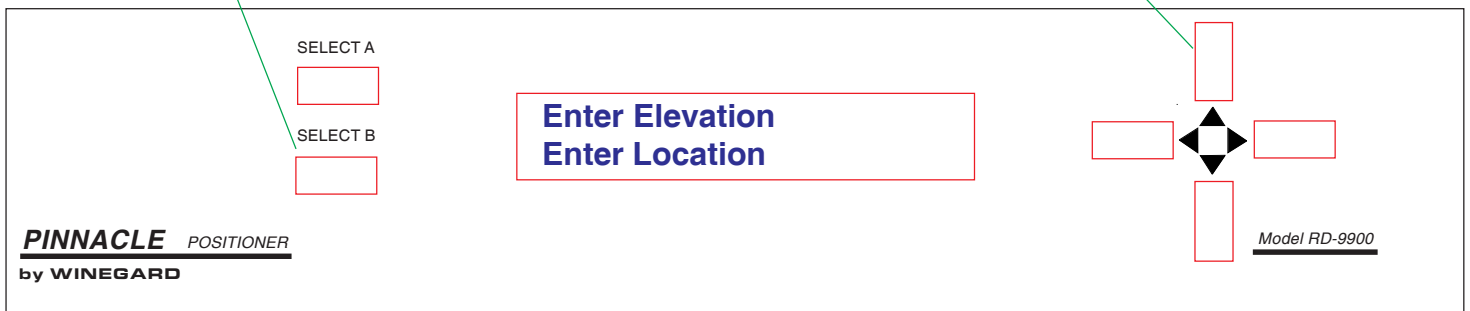

Figure 18
5. Press **[UP]** arrow button, Figure 18.
6. Press **[SELECT B]** Enter Location, Figure 18